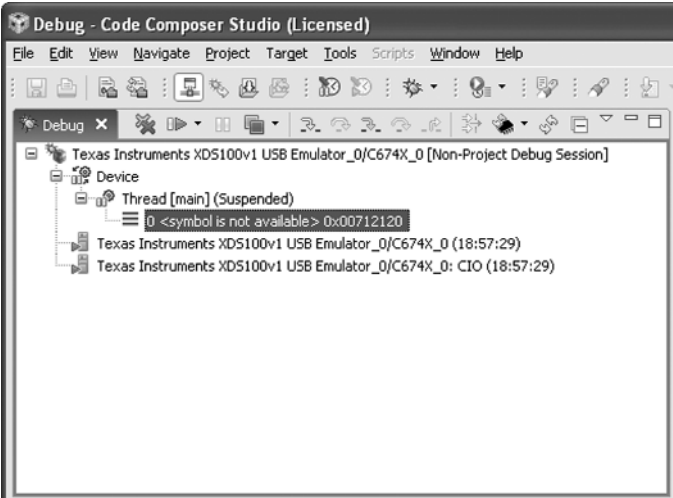
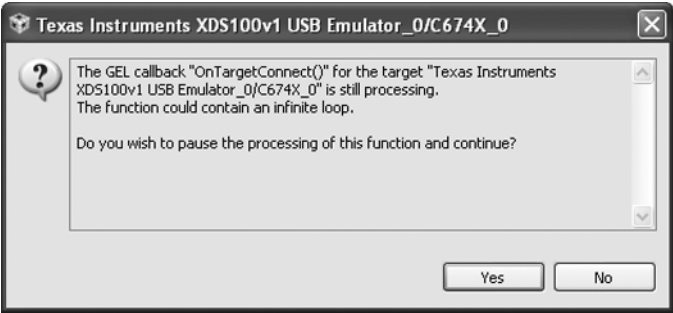

Figure 1.11 *Debug* view as it should appear in the *Debug* perspective after connecting to target (*Connect* icon highlighted).
Figure 1.12 Error message window.
- (13) Select *Target > Connect Target*. At this point, the GEL script `C6748.gel` specified by the target configuration file `L138_eXperimenter.ccxml` will be run and some diagnostic messages will appear in the console. Following this, the *Connect* icon in the toolbar should change from grayed out to highlighted, as shown in Figure 1.11. During this step, the error message window shown in Figure 1.12 may appear. If this happens, simply ignore it. It should disappear after a few seconds.